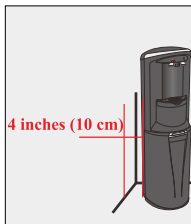

Figure 1
2. Position water dispenser so that the back of the unit is a minimum of 4 inches / 10 cm away from the wall to ensure proper ventilation (Figure 1).